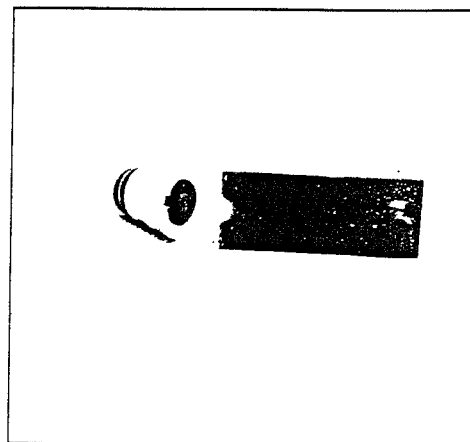

Figure 18
- 7) Once the valve assembly is removed, the valve plates and o-rings can be replaced. (See Figure 18).